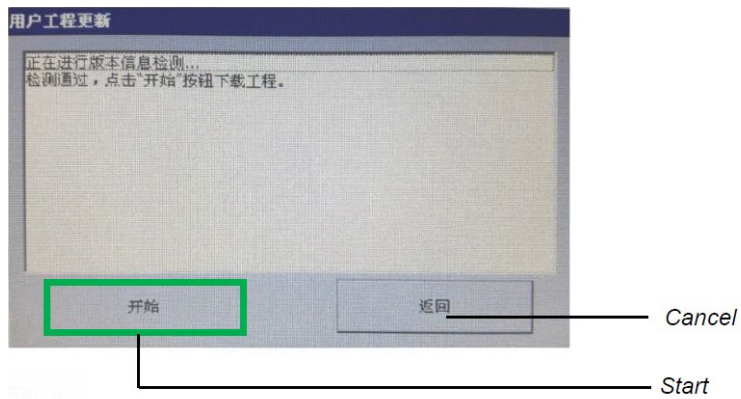

Figure 16
5. In the next window,(fig. 16) press the left button “开始” to start.